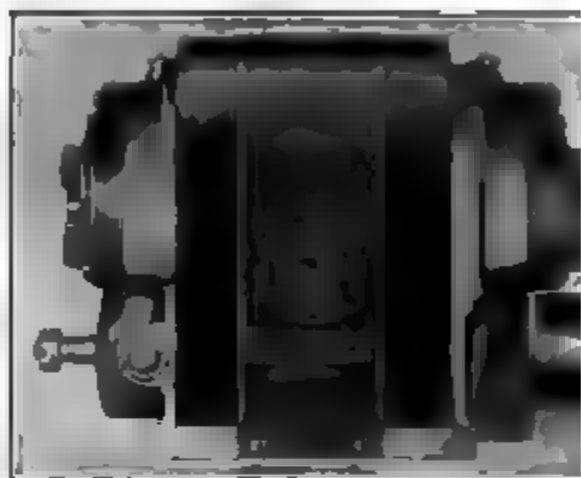

Fig. 85. Remy Two-Spark Magneto
**Double-Spark Ignition.** Mention has already been made the employment of two sparks occurring simultaneously the cylinders under the head of "Series Plugs". It will evident that simply by adding another distributor to a magneto and taking leads from it to a second set of plugs placed at another point in the cylinders, preferably as far away from the first as possible, the same result is accomplished. Fig. 85 shows a Remy two-spark magneto, the distributors being mounted at opposite ends of the field.